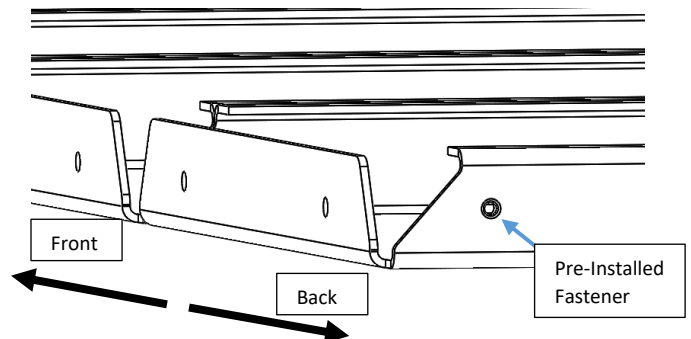

Figure 3: Close Up of Panel Orientation - Front-to-Back
2. Arrange the flooring panels into the desired configuration with the panels oriented to have access to the fastening features (flat surface down/away). Use Figures 1 & 2 as a guide. The edge of the panel with the threads should face the rear of the rack as shown in Figure 3.